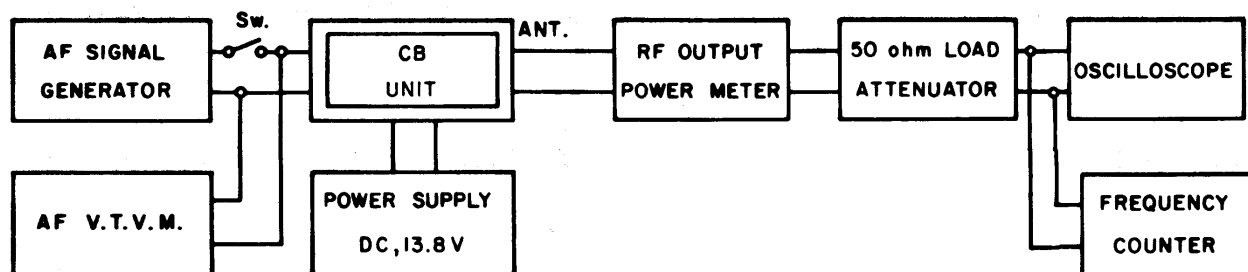
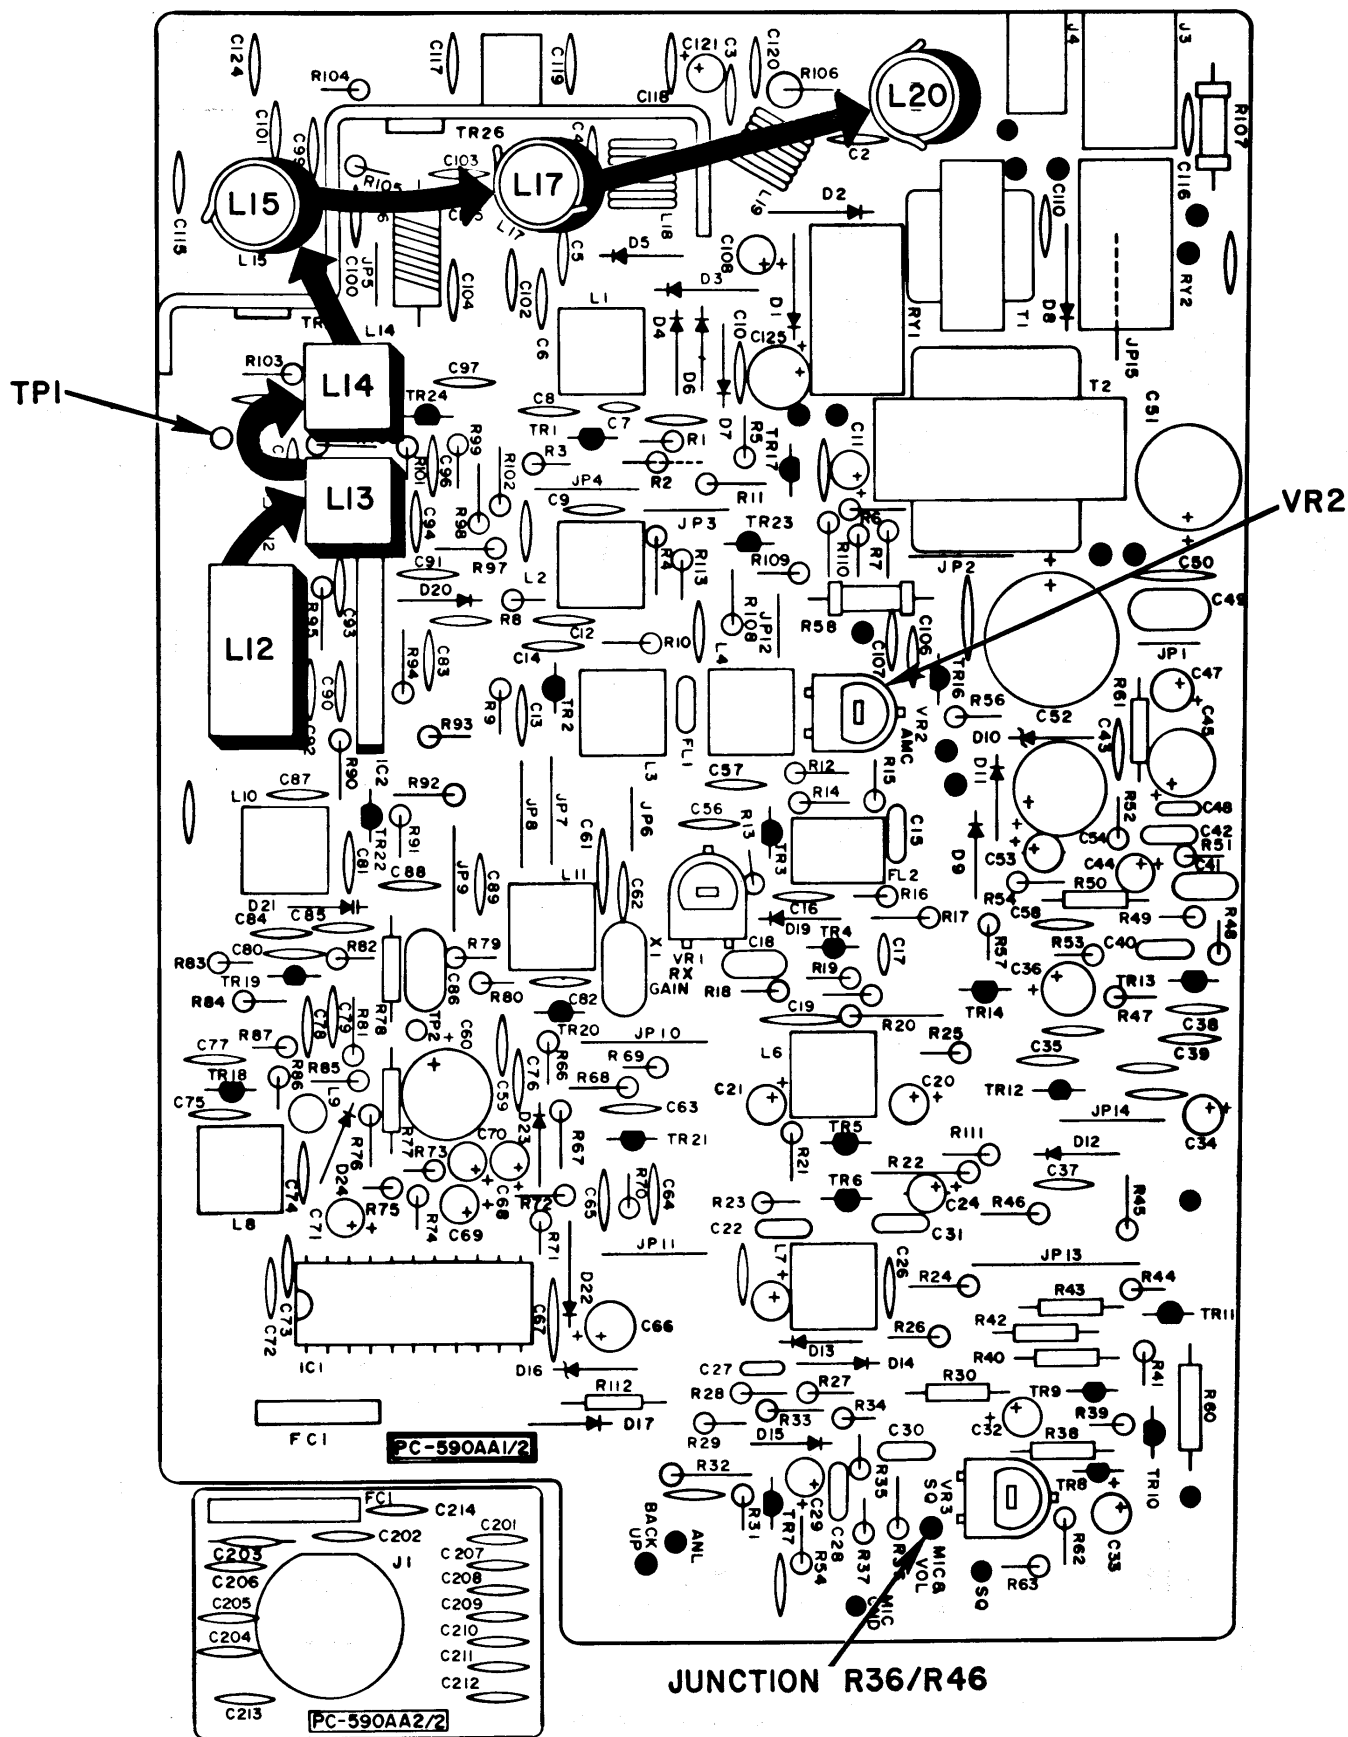

Figure 4 – Transmitter Alignment Test Equipment Set-Up
Figure 5 – Transmitter Alignment Points
Connect the test equipment as indicated in the block diagram Figure 4. Preset the transceiver to Channel 40. Disconnect one end of the lead between pin 19 of the microphone jack (usually pink wire) and the main PC board at the PC board end. This is physically located between R36 and VR3 at the junction of R36 and R46. (see Figure 5). Connect the AF Oscillator to the junction of R46 and R36 at point shown in Figure 5. The push-to-talk switch is depressed for each of the following steps.
1. Connect the oscilloscope to TP1 on the Main PC board, see Figure 5. Activate the transmitter and adjust L12, L13 then L14, in this order, for maximum indication on the oscilloscope.
5. Set the transceiver to Channel 19 and adjust VR2, see Figure 5, for 100% modulation on the oscilloscope.